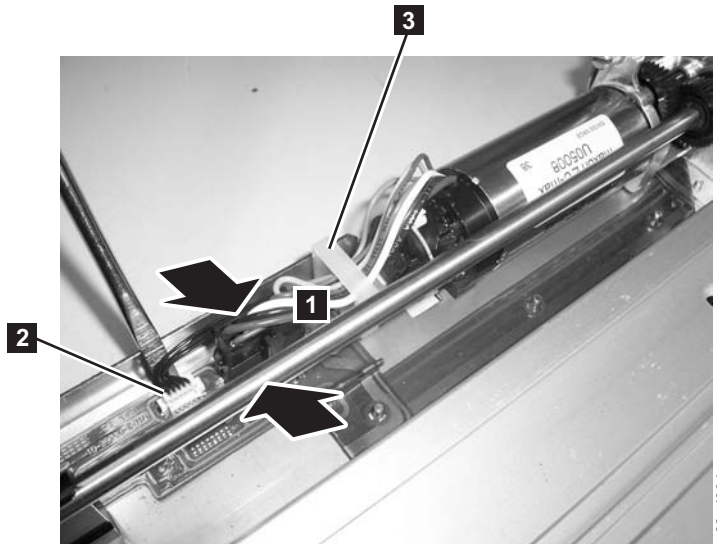

Figure 8-61. Y motor connector
3. Connect the small white connector (**2** in Figure 8-61 on page 8-62).
4. Connect the large black connector. See Figure 8-61 on page 8-62.
- a. Pinch the latch on the cable connector (**1** in Figure 8-61).